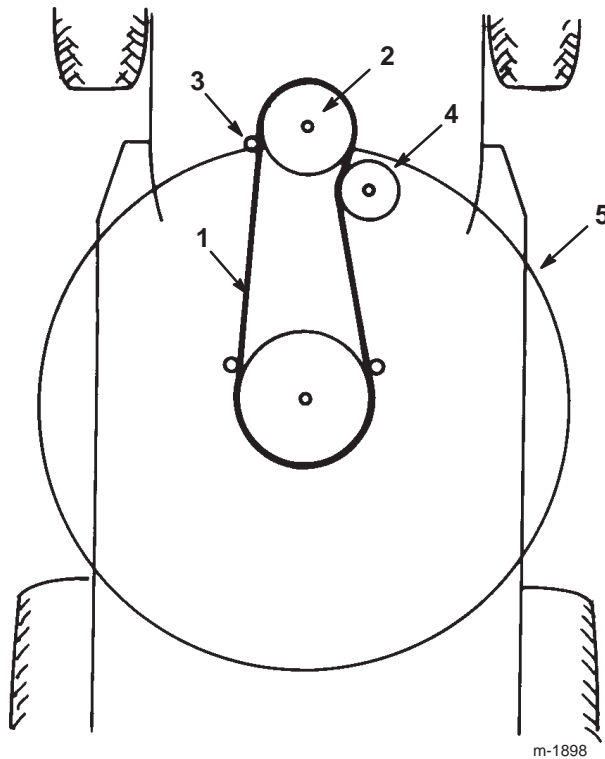

Figure 36
18. Remove the mower belt from the lower engine pulley (Fig. 36).
10. Install the mower belt onto the lower engine pulley (Fig. 36).